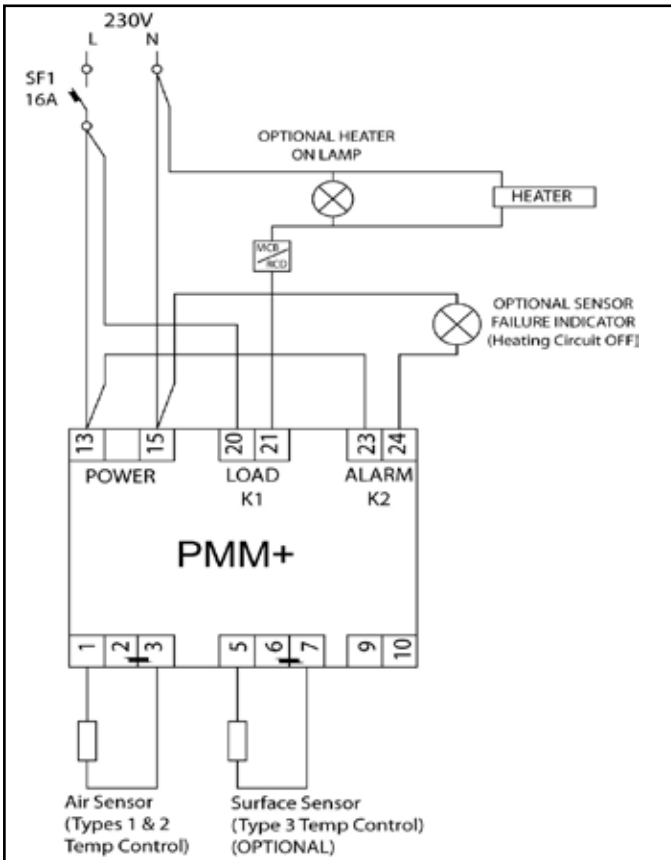

Fig 2 Wiring Diagram using Integral 16 amp, 230 volt Relay
- a) integral 16 amp, 230 volt relay (see Fig 2).